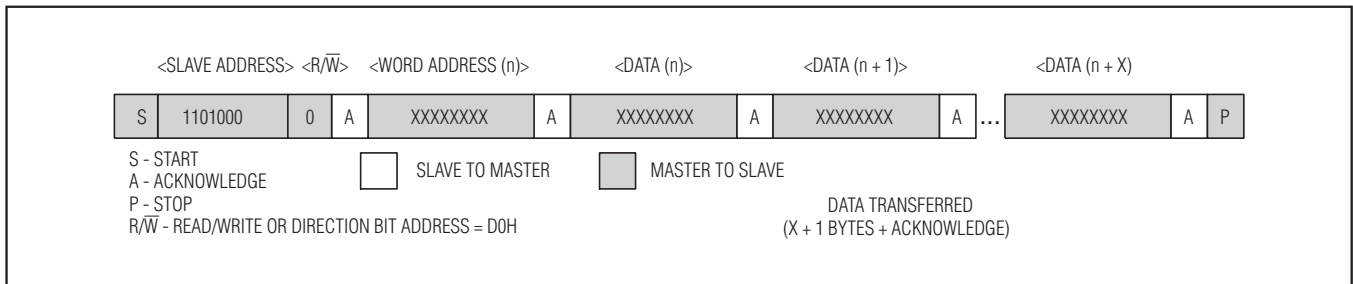

Figure 3. Data Write—RTC Slave Receiver Mode
**1) Slave receiver mode (DS32B35/DS32C35 write mode):** Serial data and clock are received through SDA and SCL. After each byte is received an acknowledge bit is transmitted. START and STOP conditions are recognized as the beginning and end of a serial transfer. Address recognition is performed by hardware after reception of the slave address and direction bit (see Figures 3, 5, and 7). The slave address byte is the first byte received after the master generates the START condition. The slave address byte contains one of the 7-bit device addresses. The slave address is 1101000 for the RTC. For the DS32B35 FRAM, the first four bits are 1010, and the next three bits select one of eight blocks of data (see Table 2). For the DS32C35 FRAM, the first seven bits are 1010000. Each slave address is followed by the direction bit (R/W), which is zero for a write. After receiving and decoding the slave address byte, the device outputs an acknowledge on the SDA line. After the device acknowledges the slave address and write bit, the master transmits a register address to the device. For the DS32C35, the master transmits two bytes for the register address information. This sets the register pointer on the device. After setting the register address, the master then transmits zero or more bytes of data with the device acknowledging each byte received. The master generates a STOP condition to terminate the data write.